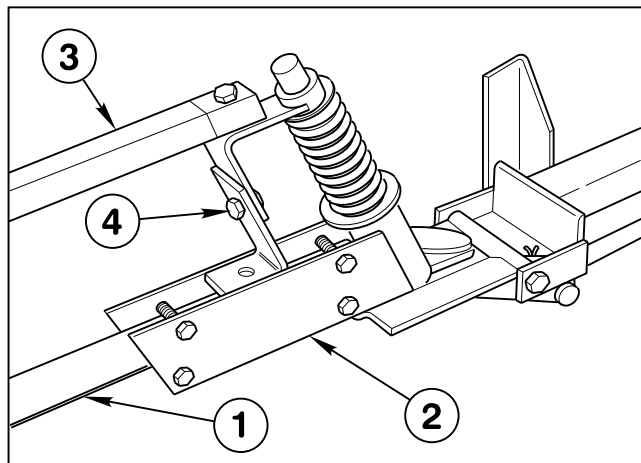

FIG. 8
10. Insert the plugged end of an Extension Boom Pipe into the Pivot Assembly and secure with four (4) 1/4" x 1-1/4" cap screws and lock nuts. See FIG. 8. Repeat on the opposite side to assemble the other Extension Boom.